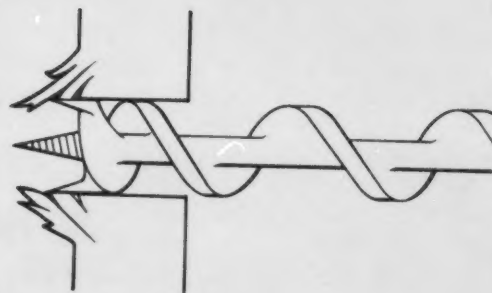

Figure 8-7 Splitting out
11. Turn the board around and bore from the other side (Figure 8-6b). This will prevent **splitting out** one side of the board (Figure 8-7).